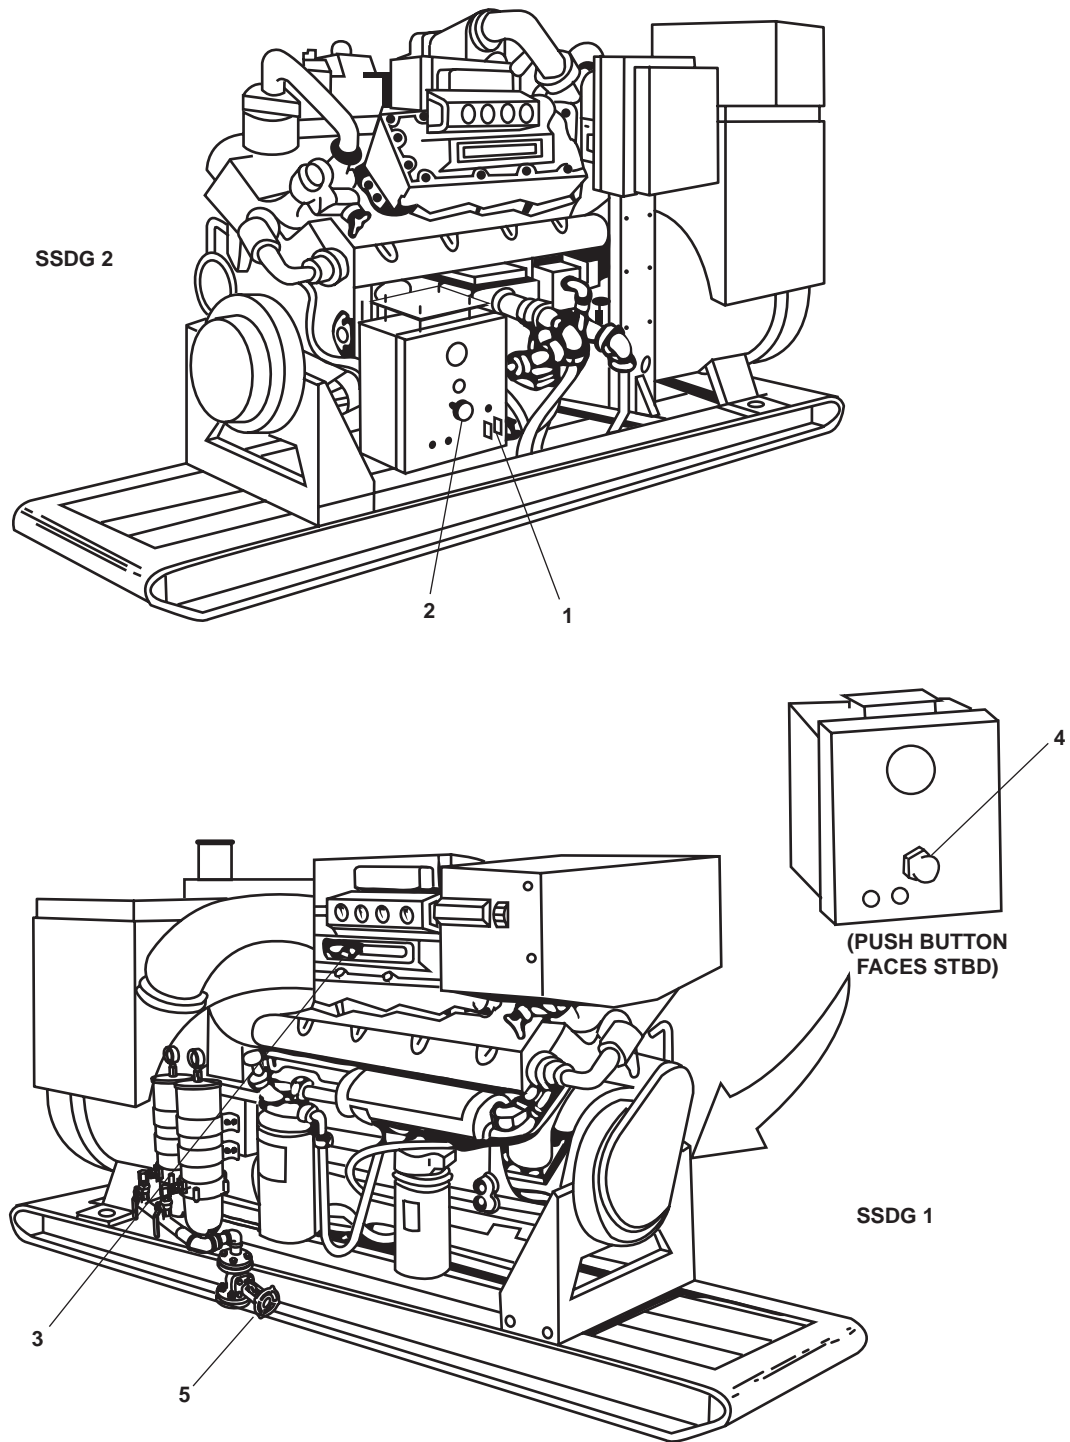

Figure 2. SSDG Engine Control
- (1) Set the START switch to (figure 2, item 1) to OFF (DOWN).
- (2) Push the emergency stop pushbutton (figure 2, item 2) to IN.
- (1) Set the OFF/RUN/START switch (figure 2, item 3) to OFF.
- (2) At the SSDG 1 engine control panel, set the emergency stop pushbutton (figure 2, item 4) to IN.
- (1) Fuel oil filter outlet valve
- (2) Fuel oil filter inlet valve (figure 2, item 5)